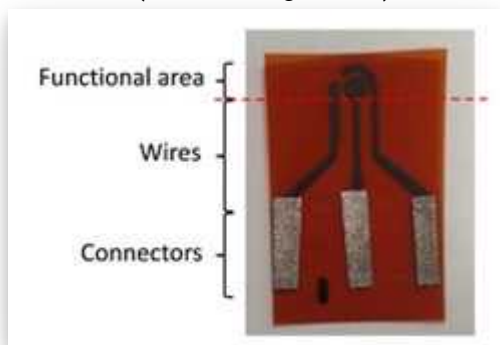

Figure 6A
a. Cut each electrode and incorporate a small piece of metallic tape in the connectors of each electrode (shown in *figure 6A*).